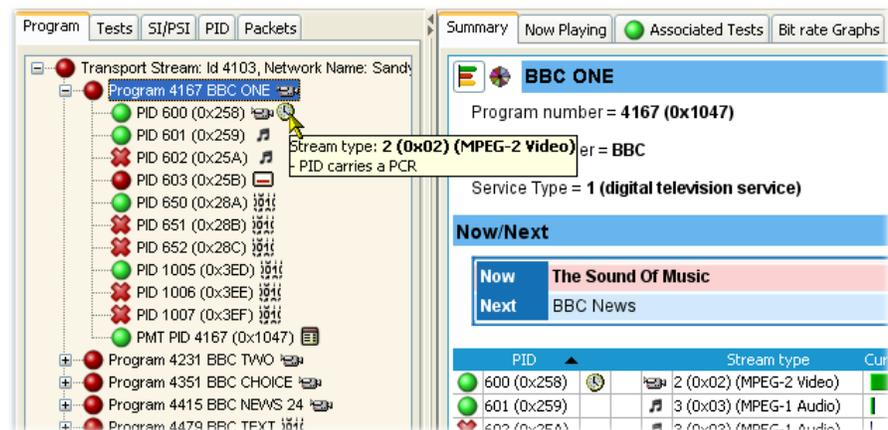

Figure 82: PID count
2. Expand the Transport Stream tree and a program node (see Figure 82).